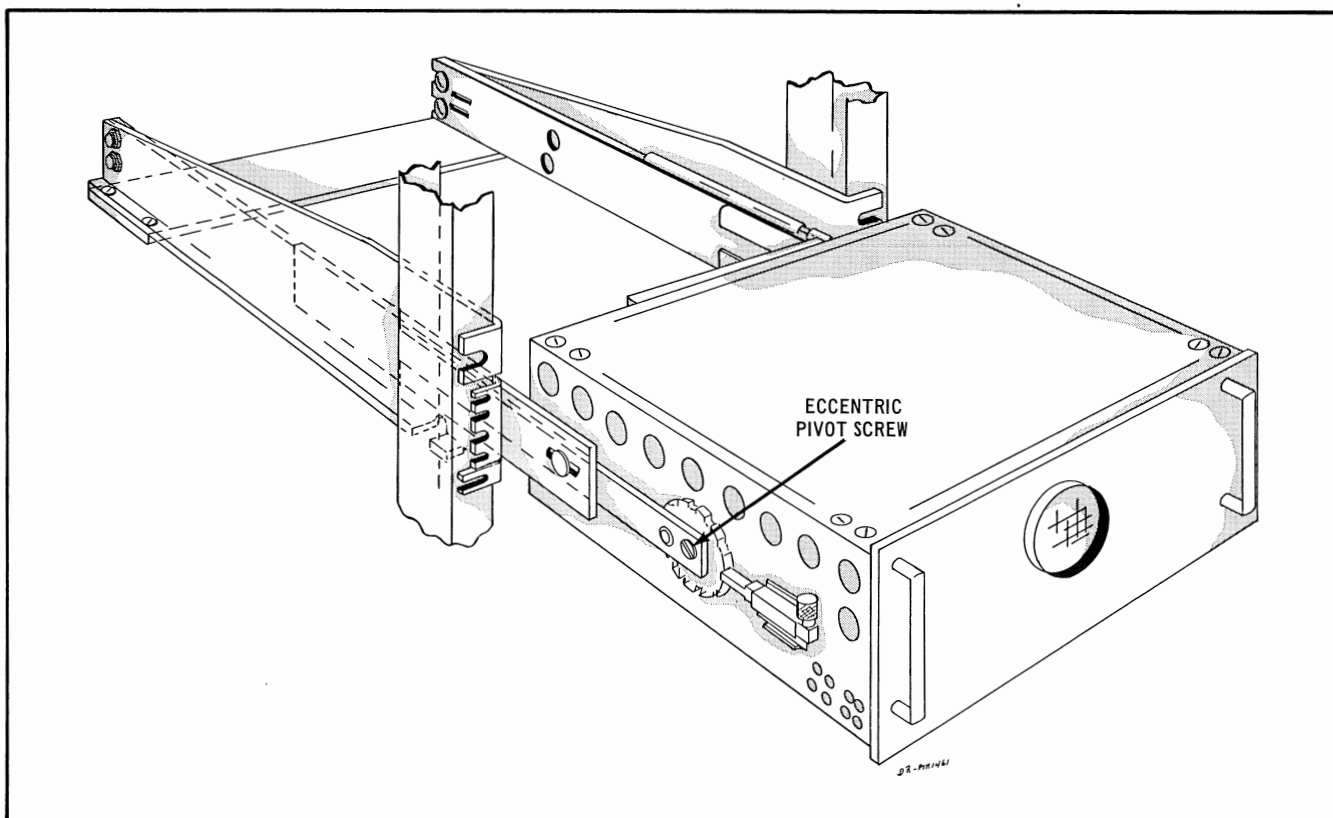

Fig. 2-3. The completed installation. It may be necessary to loosen the bolts and allow the slide mechanism to adjust to the weight of the instrument.
5. Place the Type RM17 in the Chassis-Trak slides as shown in Figure 2-3. Operate the slide mechanism several times with the instrument installed. If the operation of the slides is not smooth, loosen the mounting bolts and allow the slide mechanism to adjust to the weight of the instrument. Be sure to retighten all bolts after the mounting has been adjusted. Adjust eccentric pivot screw if necessary for smooth operation.